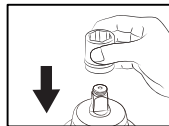

Fig. 9A
7. To attach a socket, align the accessory with the anvil and push it firmly over the retaining ring . (Fig . 9A)